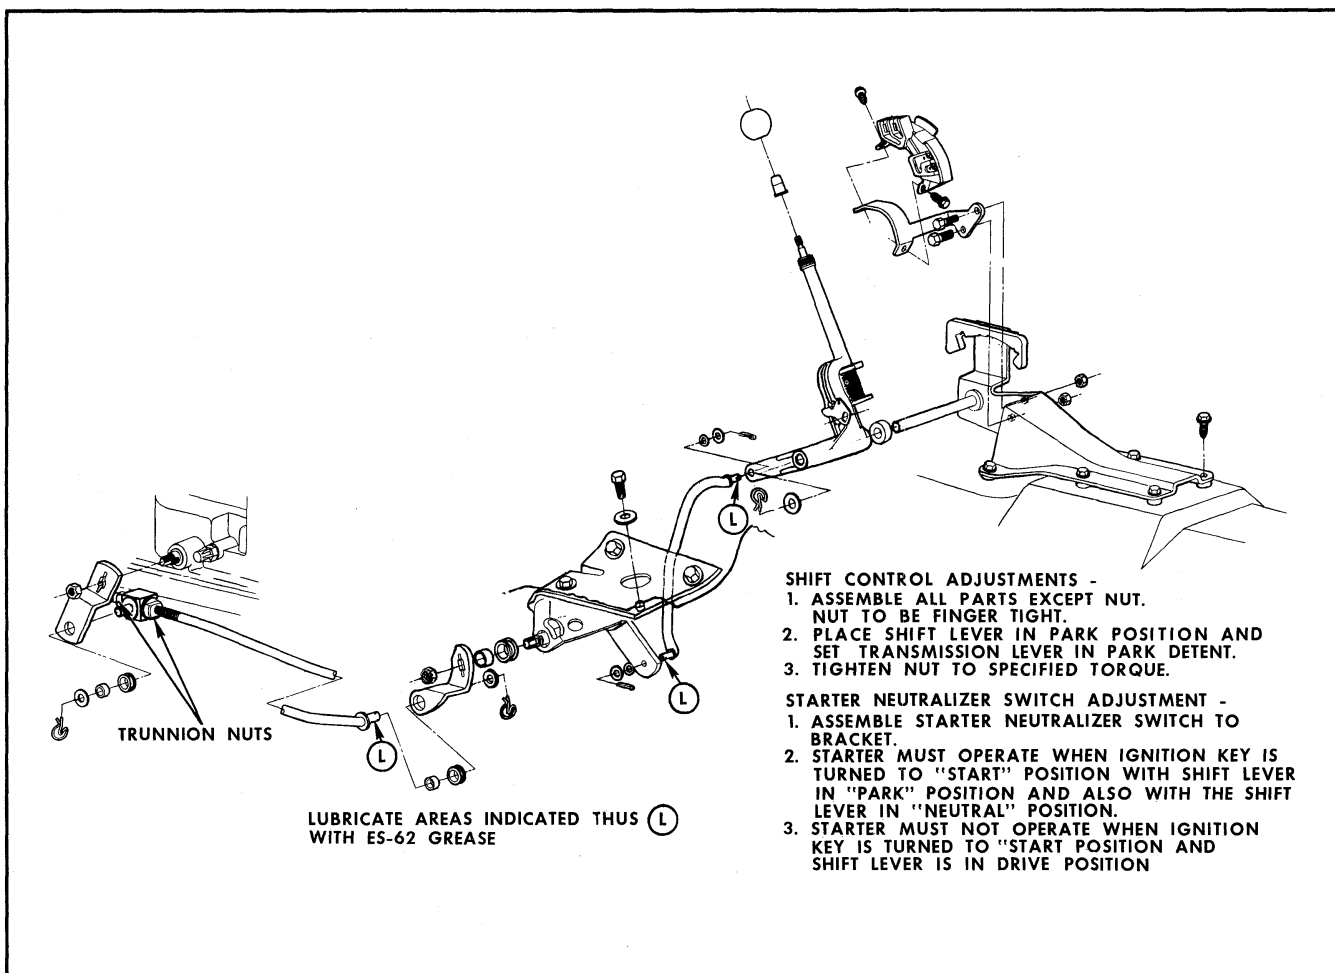

Fig. 7B-29 Console Shift Control Linkage
2. Pry out old seal (Fig. 7B-30).